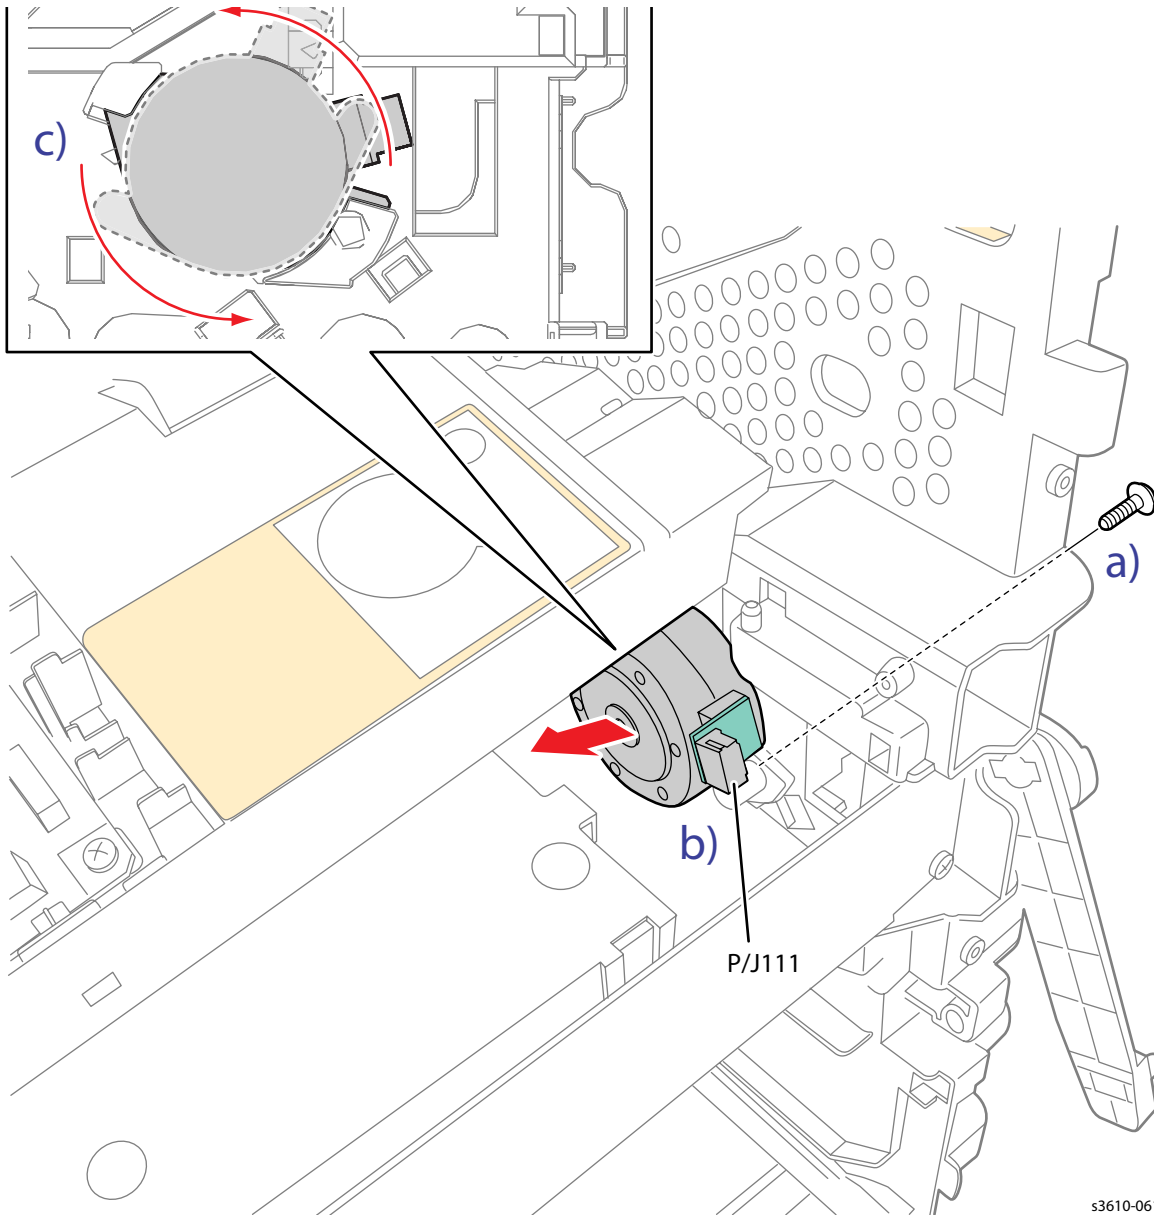

Figure 4
11. Remove the Toner Dispense Motor. (Figure 4)